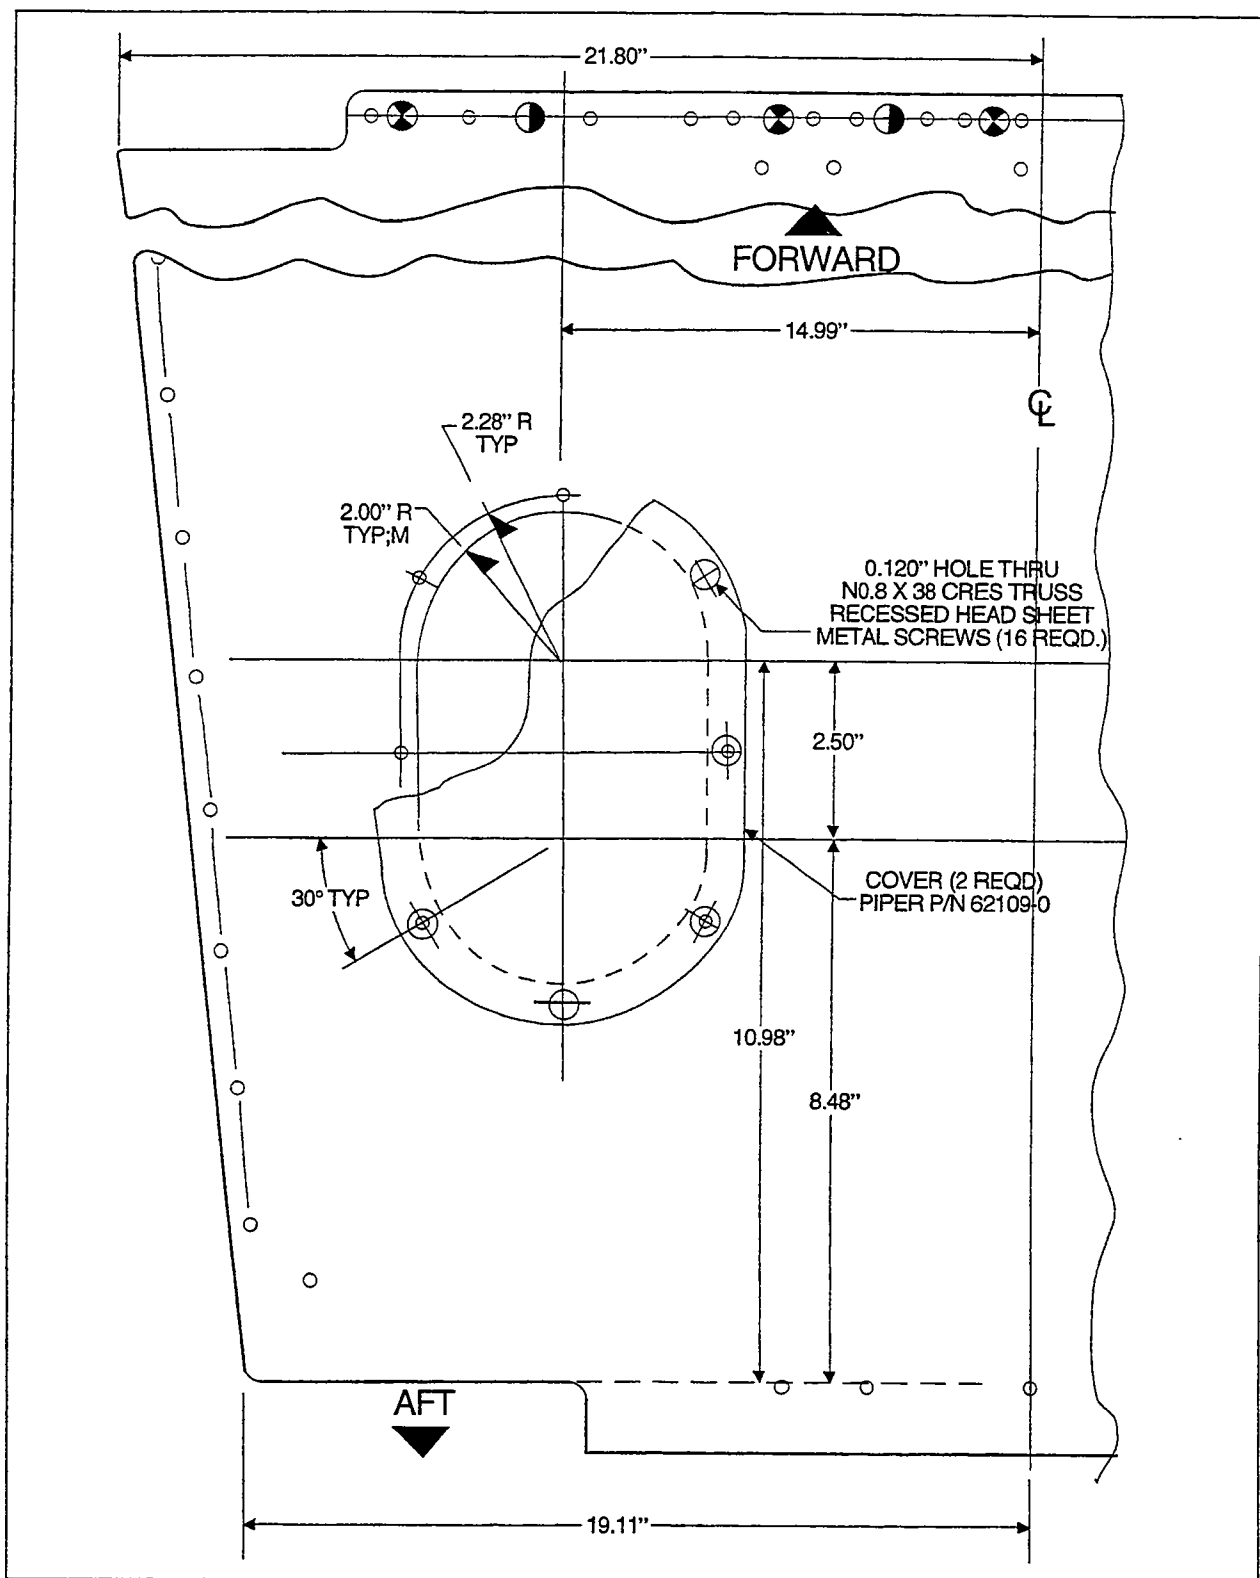

Figure 4-26. Baggage Compartment Inspection Holes Cutout Details
b. Baggage Compartment Inspection Holes Fabrication Procedure. (Refer to Figure 4-26.)
While Figure 4-26 shows the hole in the left side of the baggage compartment, a similar hole is also cut out in the right side baggage compartment floor. Installation will require two each inspection access covers, Piper P/N 62109-00.
- (1) Right side baggage compartment Royalite plastic close out panel.
- (2) Rear close out panel.
- (3) Carpeting from baggage compartment floor.
- (c) Determine and mark a reference center line running through baggage compartment. Refer to Figure 4-26 for measurements.
- (i) There should now be two ovals, like the one in Figure 4-26, laid out on each side of the baggage compartment floor.